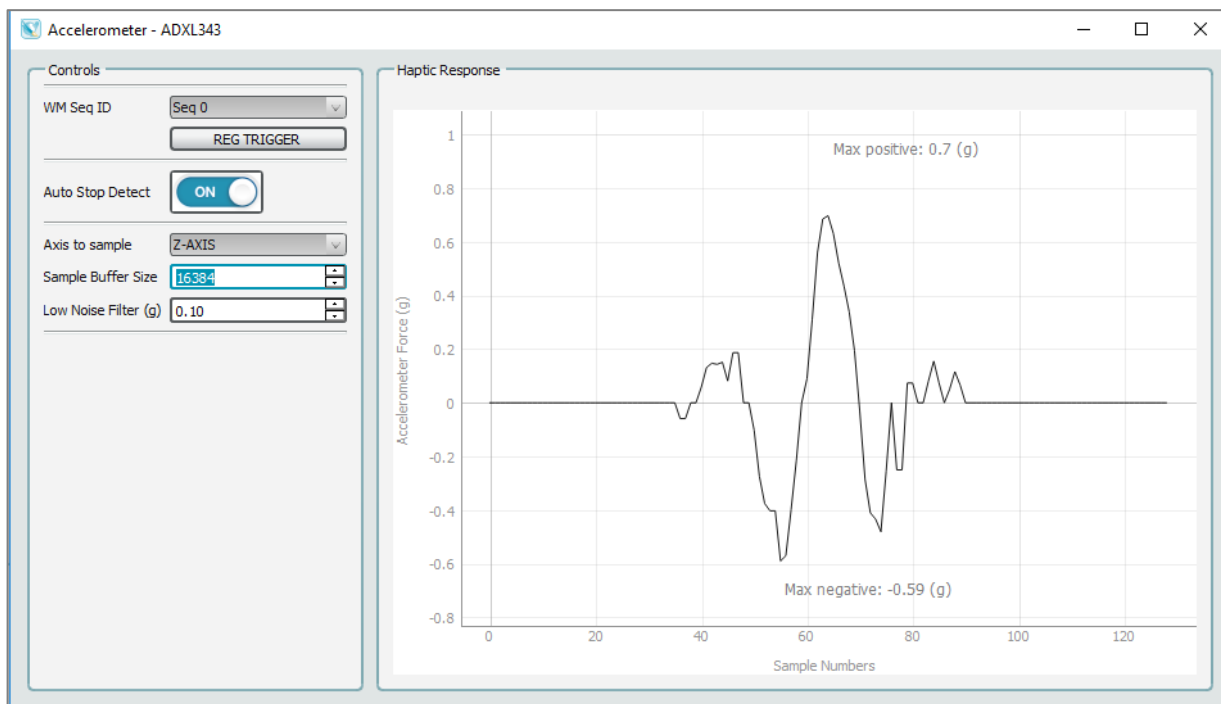

Figure 69. Digital accelerometer GUI
5. In the **Accelerometer** window (Figure 69), in the **WM Seq ID** list, select the waveform memory sequence ID and then to play the sequence, click **REG TRIGGER**.